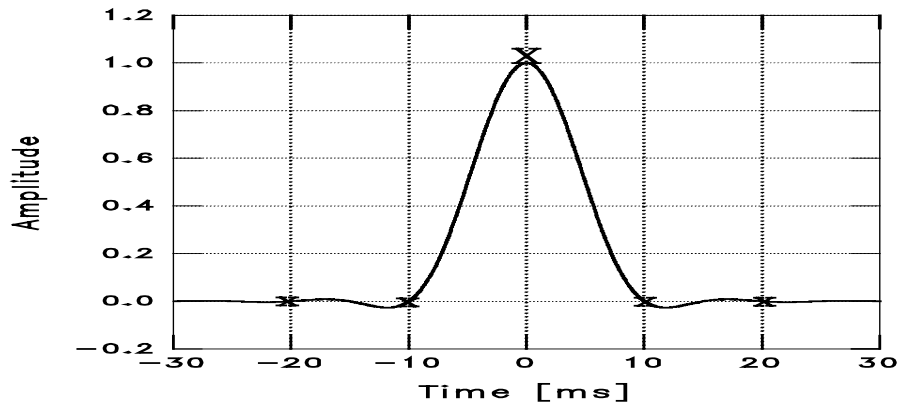

Figure 3.1: Raised-Cosine-Pulse, Sampling points marked X or x.
2. At the sampling points (e.g. every 10 ms for a step speed of 100/sec) the RC pulse presents a "zero crossing" to all except the *correct* sample point. This means that the impulse can be completely overlapped at the sampling distance, although the pulse itself may exhibit a multiple of the computed step length. This leads to a very high information density. To clarify this point, Fig. 3.1 shows the sampling points of a 100 baud RC pulse.